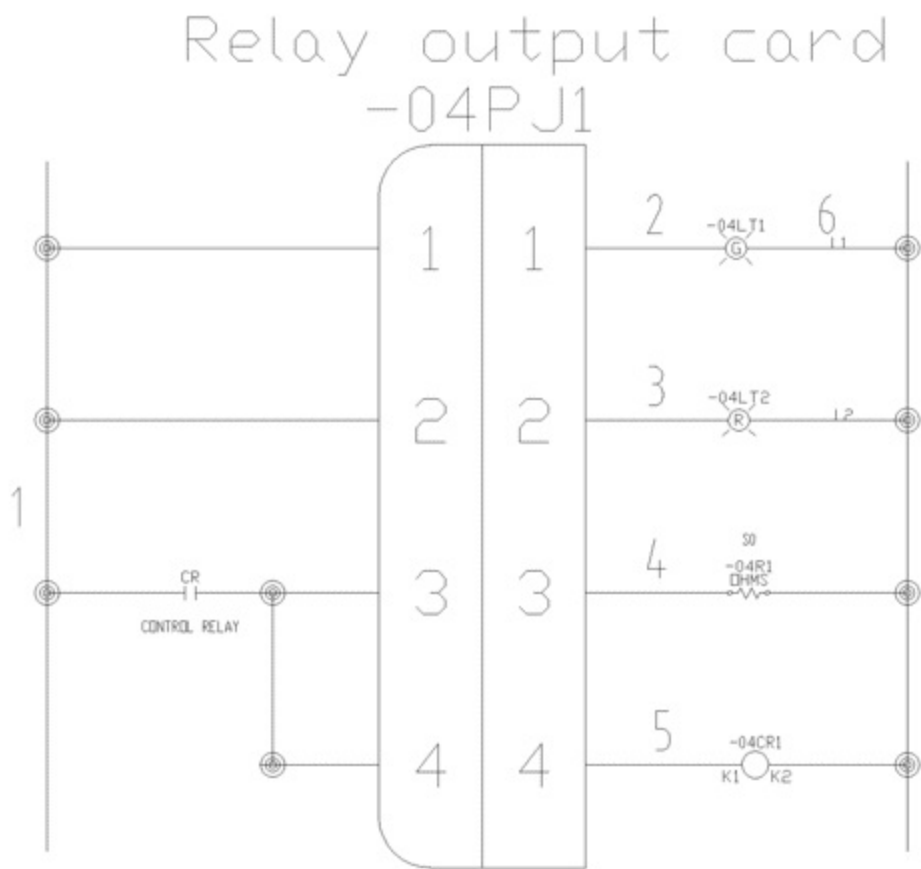

Figure-46. Practical 2
- Click on the **Drawing-Wide** button from the dialog box to assign the wire numbers to all the wires in the current drawing. The schematic after assigning the wire numbers will be displayed as shown in Figure-46.